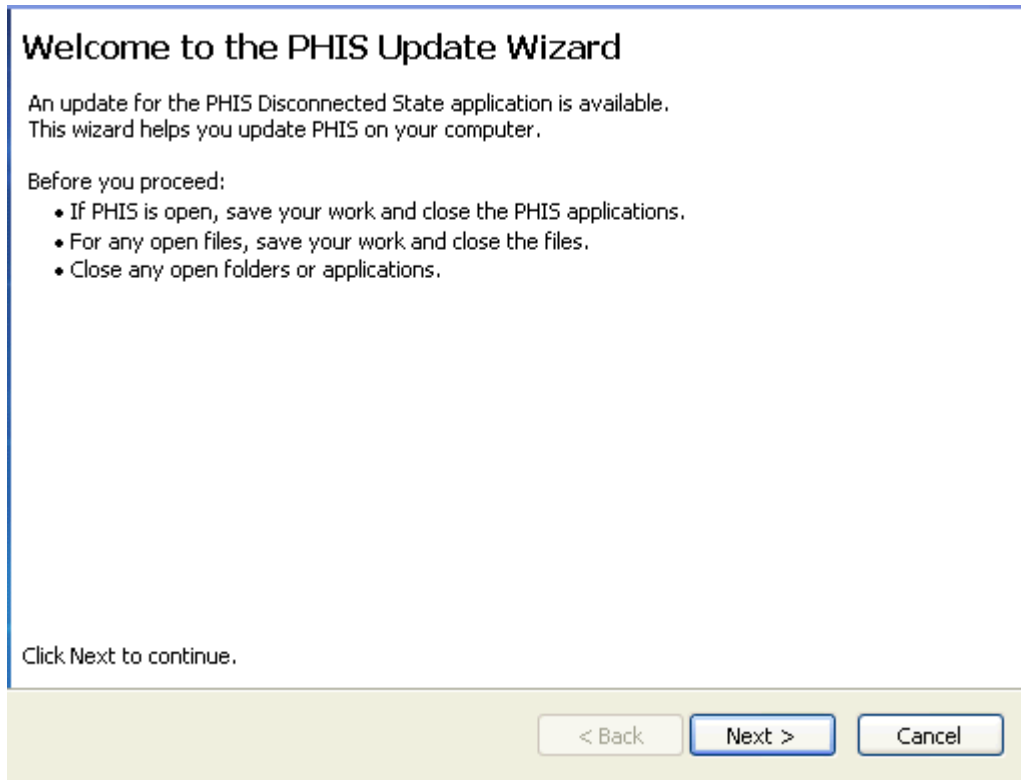

Figure 2: PHIS Update Wizard
3. When prompted to update your software, click **Next** and follow the instructions in the PHIS Update Wizard (see Figure 2: PHIS Update Wizard).